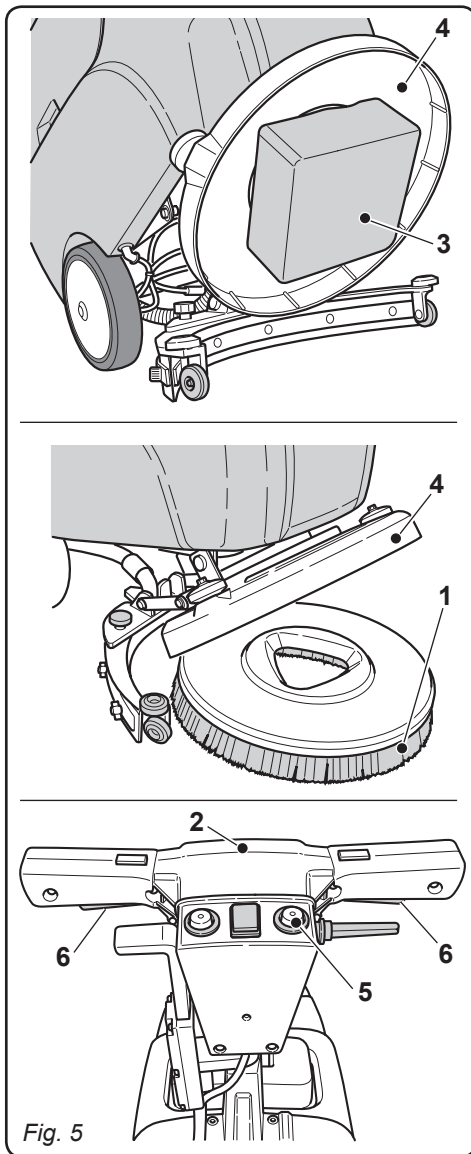

Fig. 5
3.1.d - Assembling the brush (Fig. 5)
- Position the brush (1) on the ground.
- Lift the front of the machine up by levering the handle (2) and remove the polystyrene support (3).
- Position the flange (4) above the brush (1).
- Set the button (5) to "I", then press the levers (6), starting up rotation of the brush until hearing the "CLICK" showing that the brush has engaged, then release the levers (6) and set the button (5) to "0".